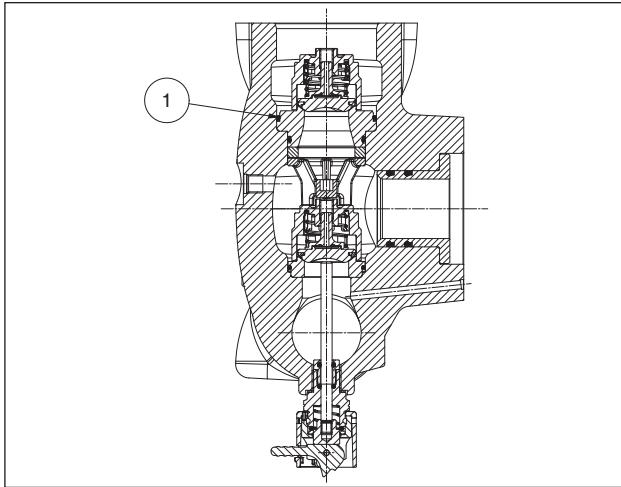

Fig. 124
**Pay special attention to fitting the O-ring shown in pos. ①, Fig. 124.